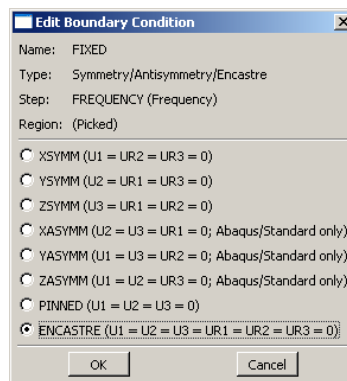

Figure 23. Edit Boundary Condition Dialog Box (FIXED)
- The **Edit Boundary Condition** dialog box will immediately appear. Click **ENCASTRE (U1=U2=U3=UR1=UR2=UR3=0)**. The **Edit Boundary Condition** dialog box should look identical to that in Figure 23.